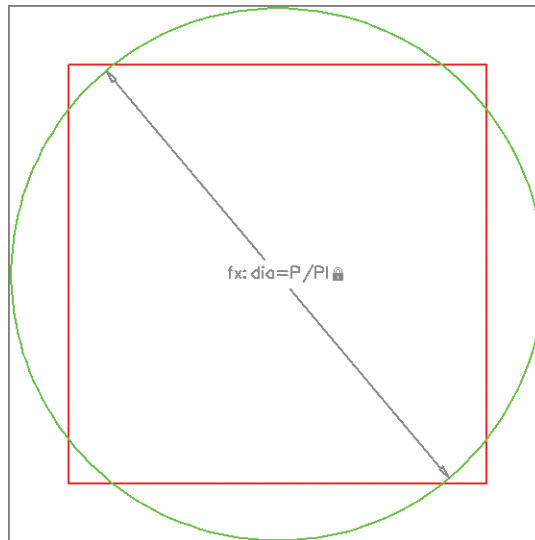

FIGURE 12.9 Squaring the circle with constraints defined by formulas
11. Select the Diameter constraint tool in the Dimensional panel, select the circle, click a point inside the circle to locate the dimension line, type `dia=P/PI`, and press Enter. The variable `PI` is hard-coded as 3.14159265; there is no need to define it as a user variable. The circumference of the circle is now equal to the perimeter of the square, traditionally called *squaring the circle* (see Figure 12.9).